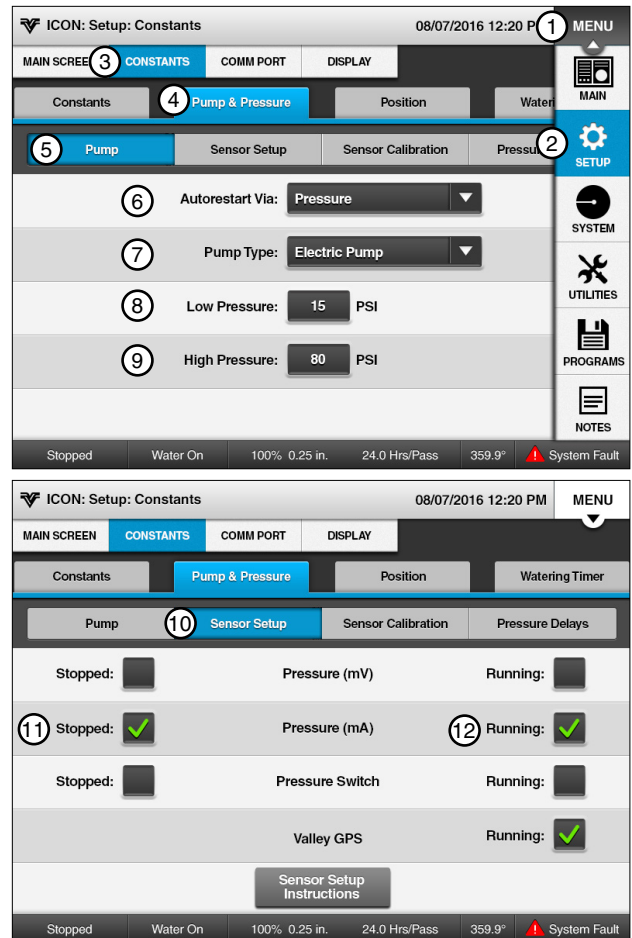

Figure 37-1
2. Go to the Pump screen to verify settings and associate pressure sensor(s) with the machine status. See Figure 37-1.